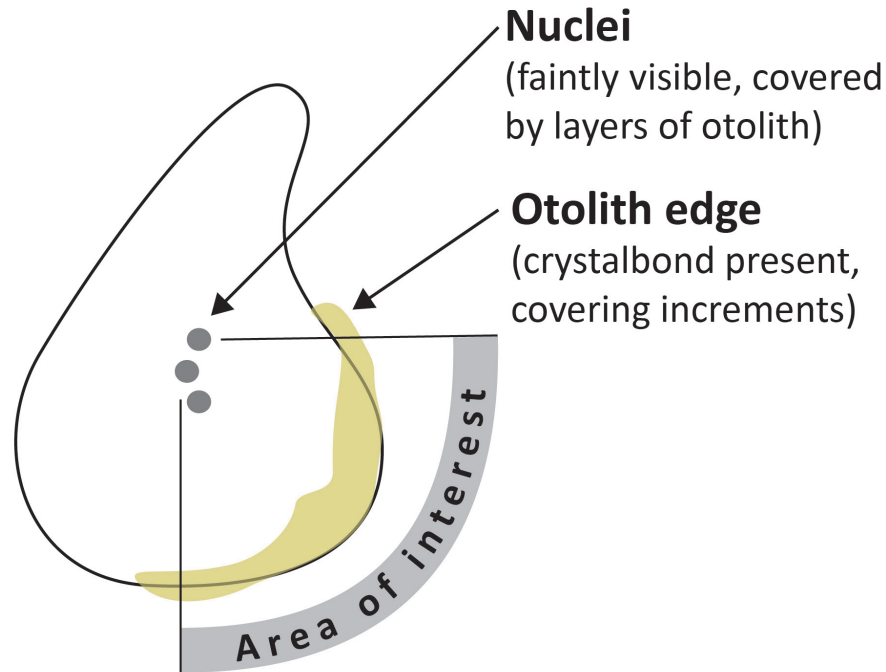

Figure 10. Otolith sample and indicators depicting when to stop grinding.
- While grinding, it's important to observe the entire otolith surface; however, you won't actually use the entire surface for image analysis. During the image analysis process (marking and measuring otolith increments), only increments within the "area of interest" will be marked (Figure 10). We mark and measure increments within this area because it tends to contain the highest-quality increments. Therefore, as you're grinding, take time to notice how the entire otolith surface is grinding, but more specifically focus on producing high-quality increments (increments that are clear and easily visible) within the area of interest.
6. Next, grind the otolith using 15-grit slurry and a TexMet Buehler grinding pad. As you grind, remember to keep the grinding pad wet at all times and periodically spray more slurry to keep the pad surface smooth. Grind with 15 grit until you begin to see the otolith nuclei. Make sure you stop grinding while resin or CB is still covering the edge of the otolith (the nuclei should have many layers of otolith material over them, so they will appear as tiny, black blobs—if you focus in further, you may see defined increments around the nuclei; see Figure 10). While grinding, it's important to look at the entire otolith surface and observe how the whole surface is grinding (i.e., does the entire otolith surface appear to be grinding evenly or are some areas of the otolith being ground faster than others?).